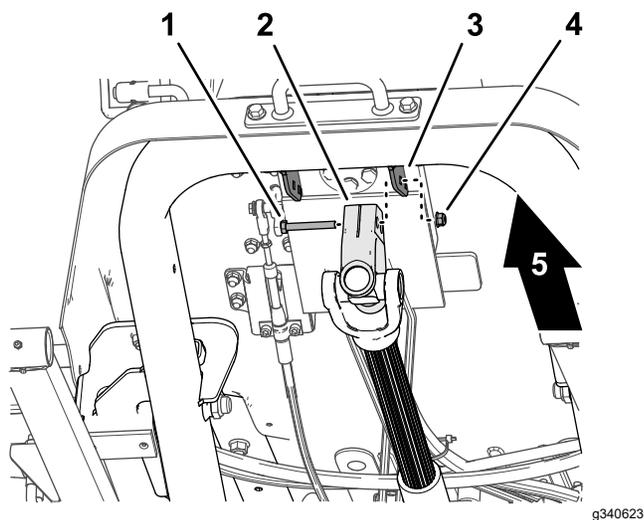

Figure 16
1. While supporting the driveshaft, remove the capscrew and locknut that secure the driveshaft yoke to the steering valve-mount bracket (**Figure 16**), and carefully lower the driveshaft.